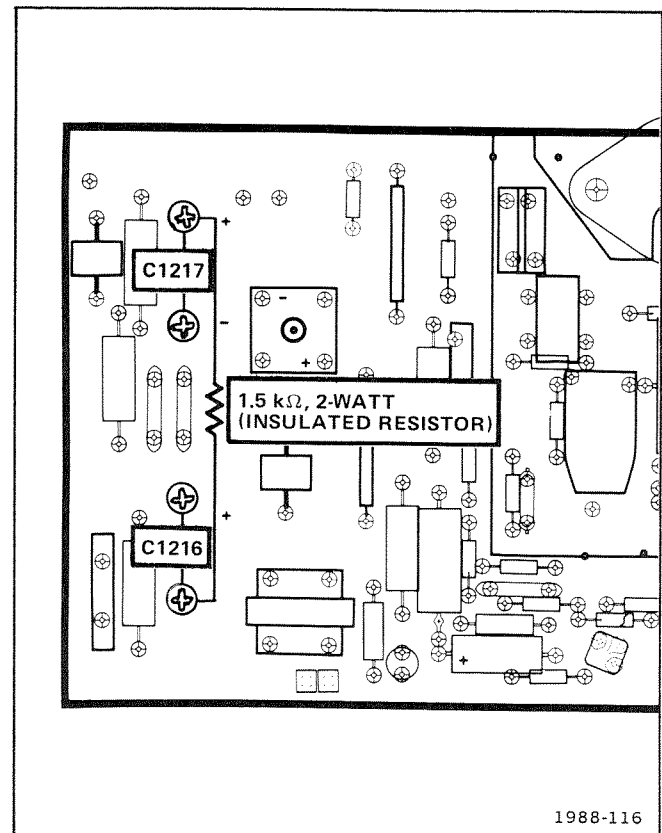

Figure 4-10. Location of line storage capacitor screws used for manually discharging C1216 and C1217.
4. Attach a 10X voltage probe from the test oscilloscope to one of the screws used to discharge C1216 and C1217 (see Fig. 4-10). Set the variable autotransformer for 20 volts and turn the 7834 on. Set the test oscilloscope for line triggering.
2. Apply a 1.5 kilohm, 2-watt, insulated resistor across the capacitor screws as indicated in Figure 4-10.